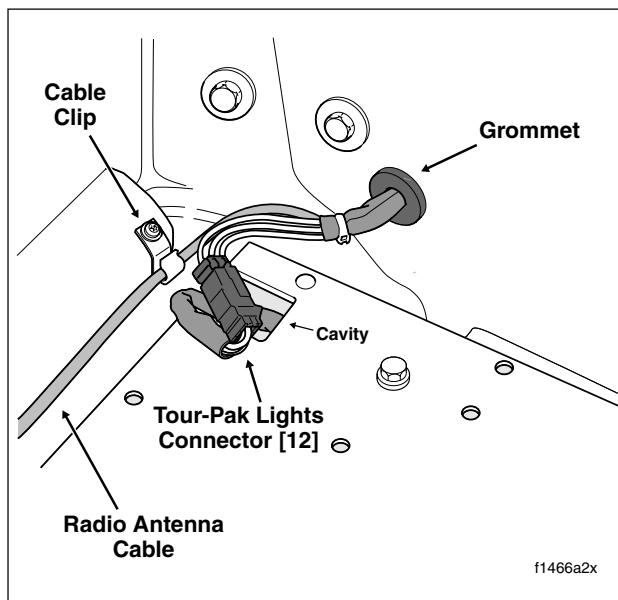

Figure 8-167. Disconnect Tour-Pak Lights Connector
11. Depress button and separate pin and socket halves of Tour-Pak lights connector [12], 3-place Multilock, inside Tour-Pak. See Figure 8-167.
3. Mate pin and socket halves of Tour-Pak lights connector [12], 3-place Multilock, and tuck into cavity inside Tour-Pak. See Figure 8-167.